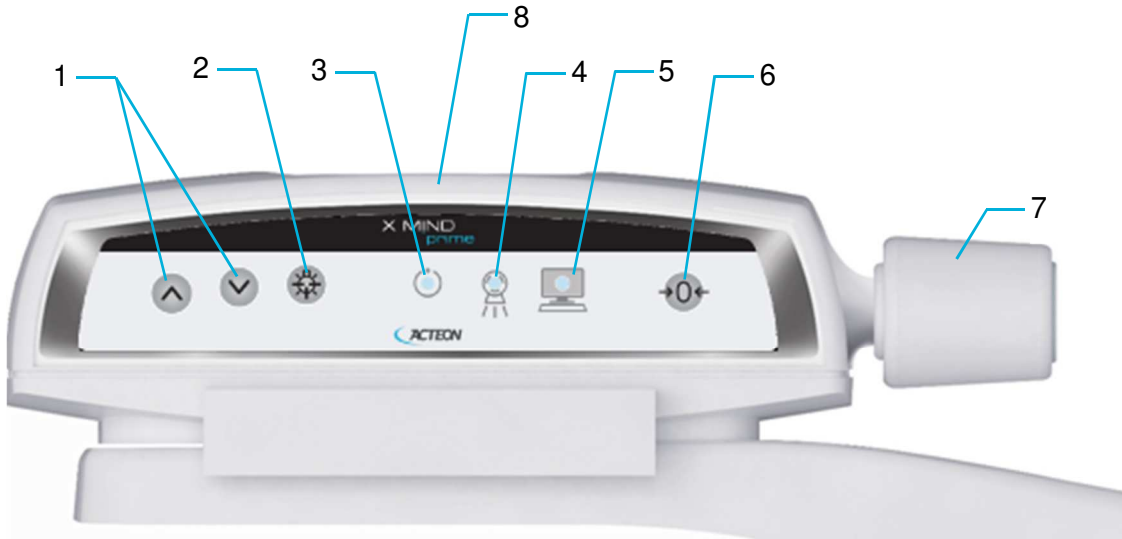

Figure 17 - Keyboard
When the "CHECK" function is complete, the green LED (3 - Figure 17) on the equipment keyboard starts blinking.
2. Run the "GUI" on the PC and wait for the connection between the PC and the equipment; this status is indicated by the blue LED on the equipment (5 - Figure 17) and on the GUI lighting up.
4. Press the button ">O<" on the keyboard to run the chin rest automatic positioning accordingly with the current exam selection. The white LED (8 - Figure 17) will starts blinking (system waiting for a user's input).
Ready for X-ray status is signalled by the green LED on the equipment (3 - Figure 17) and on the GUI lighting up. Ready for X-ray status remains as long as the equipment is in the start exam position and the GUI is connected to the equipment.
Figure 17 shows a general view of X-MIND prime 3D control Interface.
Ready for X-ray status is signalled by the green LED on the equipment (3 - Figure 17) and on the GUI lighting up.
X-MIND prime 3D assumes that the digital sensor is ready: if this is not the case, the blue light indicator of "Computer connection" status (5 - Figure 17) start blinking slowly.